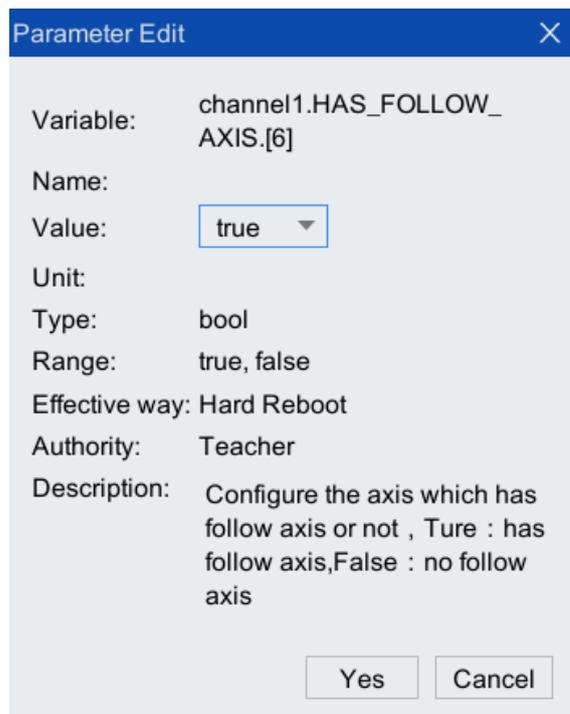

Figure 10-21 Following axis configuration interface
Step5.In the [Channel] configuration interface, click to select the [+] in front of [HAS_FOLLOW_AXIS (whether there is a follow axis)], and click to select the row of [6] (representing the 7th axis as the main axis) in the expanded sub-items. Configure [Value] to be "true", as shown in Figure 10-21. Click <Yes> to complete the configuration.